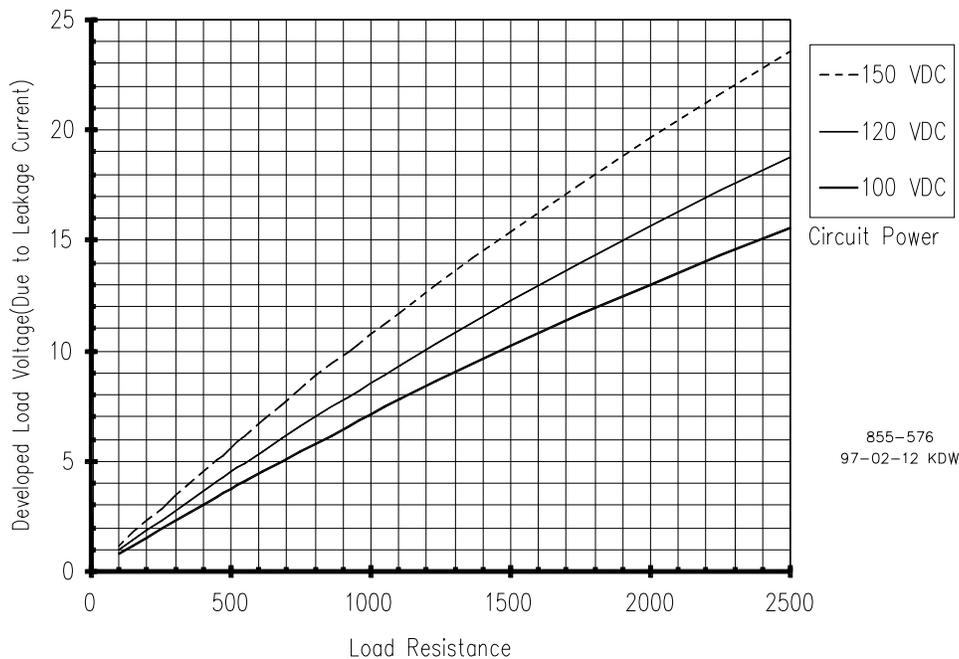

Figure 11-11. Latent Fault Detection Verification Graph—100–150 Vdc Circuitry
1. Verify that circuit the relay output is used with has a voltage level of 18–32 Vdc, 100–150 Vdc, or 88–132 Vac. If circuit voltage is not within these ranges, disable the relay output's latent fault detection by placing the relay jumpers in their disable state. See Figure 11-11.
One jumper-bank (a set of nine jumpers) is used to match the latent fault detection (LFD) circuit with the circuit voltage being interfaced with. The second jumper bank (a set of four jumpers) is used to select which set of relay contacts (N.O. or N.C.) is tested by the LFD logic. During operation, only one set of relay contacts (normally open or normally closed) can be tested. The set of relay contacts tested should be same set of relay contacts used by the circuit interfaced to. Refer to Figure 11-11. LFD can be jumper configured to be compatible with the following circuit voltages: